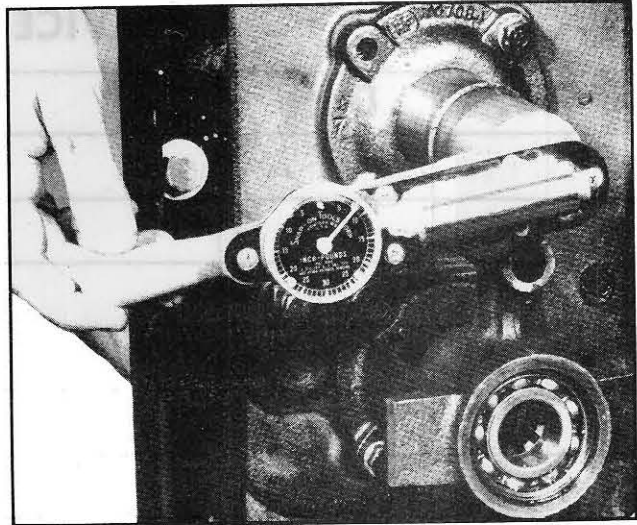

Fig. 251
14. With all gears assembled and set in the neutral position, the preload on the main shaft bearings should be adjusted by adding or removing shims so that the torque required to turn the main shaft is 7-12 pound-inches for a new transmission or 5-10 pound inches for a transmission that has had some use. Use the special socket, SDT-106, to adapt the torque wrench to the splined shaft, see Fig.251, or screw a bolt into the tapped hole in the end of the shaft and use a socket and extension.